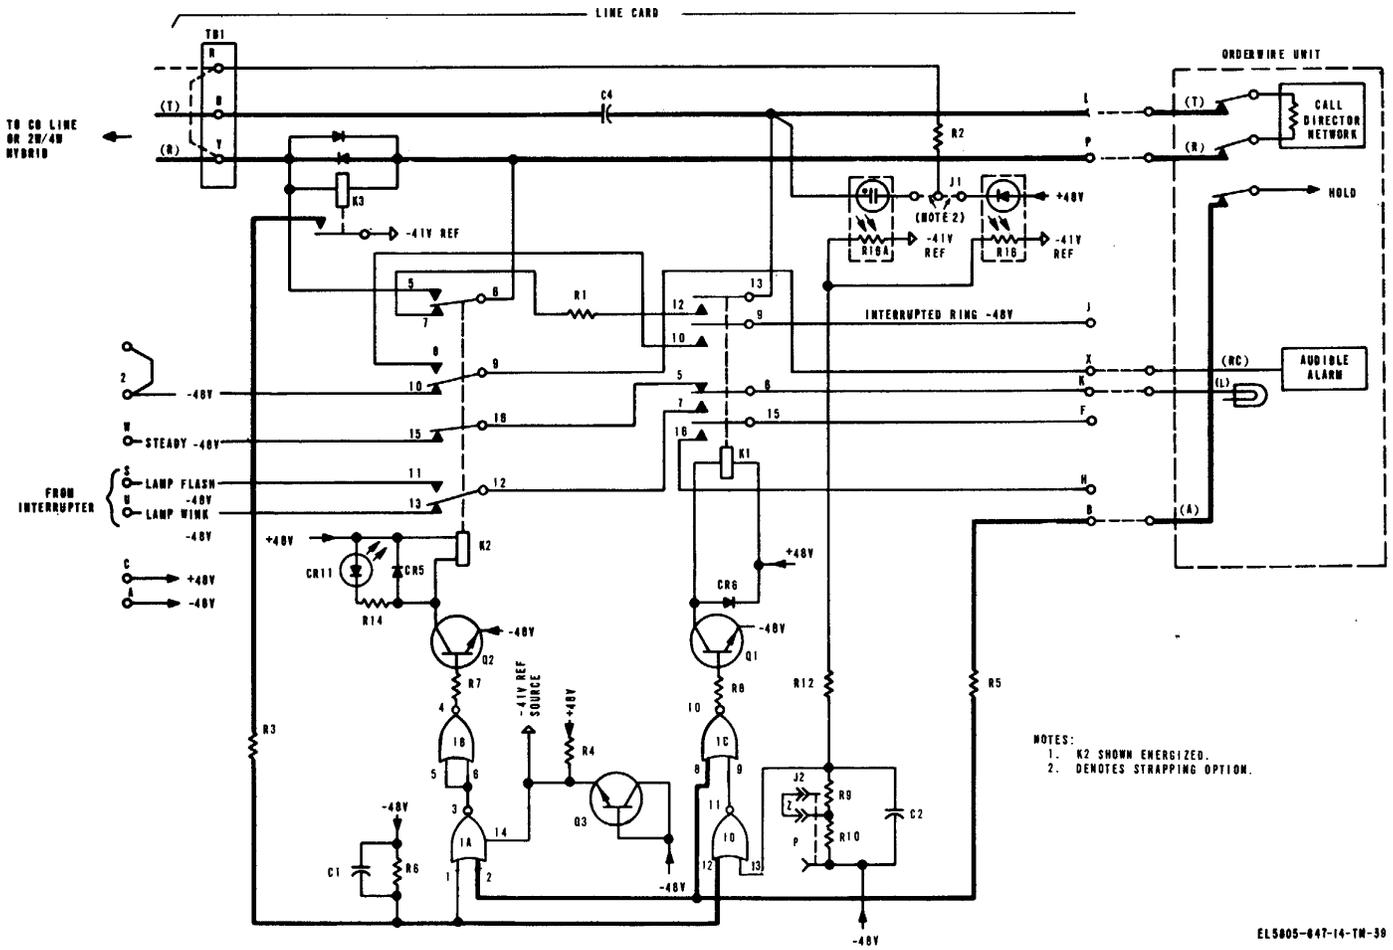

Figure 4-9. Call answered functional diagram.
(4) *Answering an incoming call and making an outgoing call* (fig. 4-9). By picking up the handset and pushing the appropriate line key, A-lead at card pin B is then tied to ground causing the integrated circuit pins 2 and 8 to detect the logic 1 level. 1A output pin 3 changes to a logic 0 and to output pin 4 changes to a logic 1. Q2 conducts and the light emitting diode lamp LED and relay K2 are energized. IC output pin 10 changes to a logic 0 state. Q1 stops conducting and K1 is deenergized. When K2 is energized, contacts 5 and 6 open the short circuit across relay K3 coil, allowing K3 to become energized by the telephone line loop current. K3 make contacts close, causing a logic 1 input at IA and ID pins 1 and 12. This causes IA and ID output pins 3 and